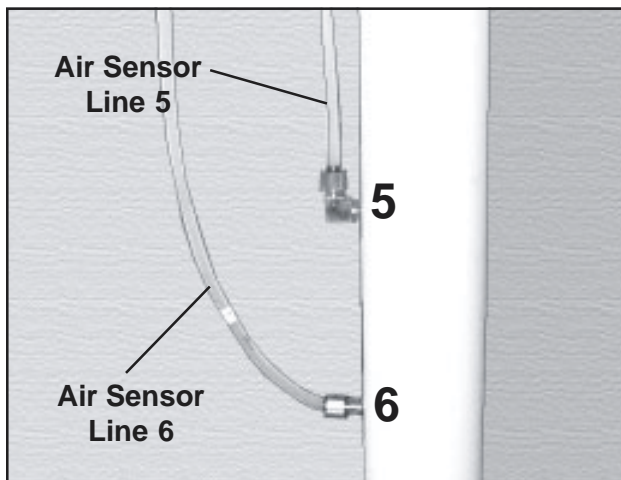

Figure 41. Brass Air Sensor Line Fittings on Right Air Intake Pipe
4. Connect air sensor line 5 to the brass air fitting numbered 5 (Figure 41). Tighten the fitting with a 7/16 in. open-end wrench.